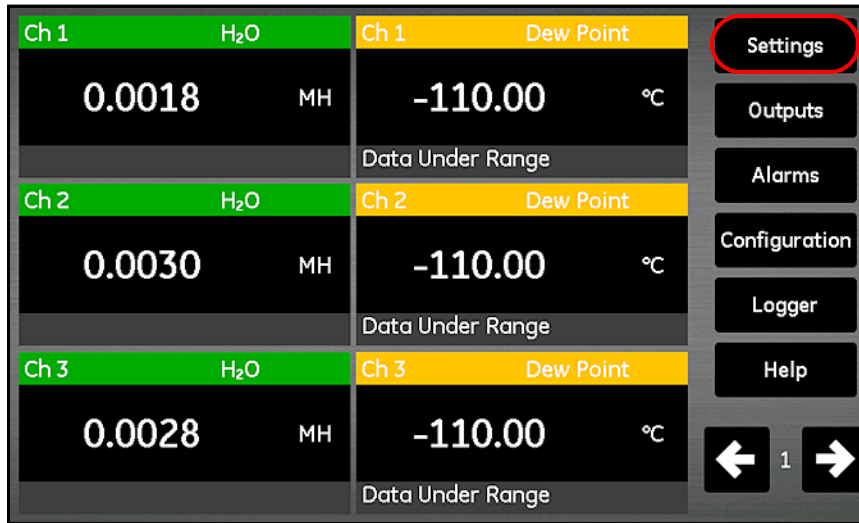

Figure 86: Settings Button on the Main Screen
4. From the main screen, tap the **Settings** button (see *Figure 86* below).